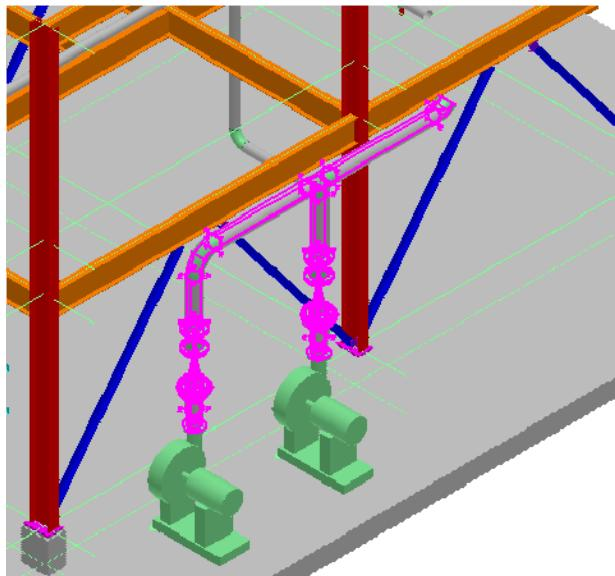

Figure 24: Selected Pipeline
64. Now select the pipeline **1001-P** in the graphic view, as shown in Figure 24.